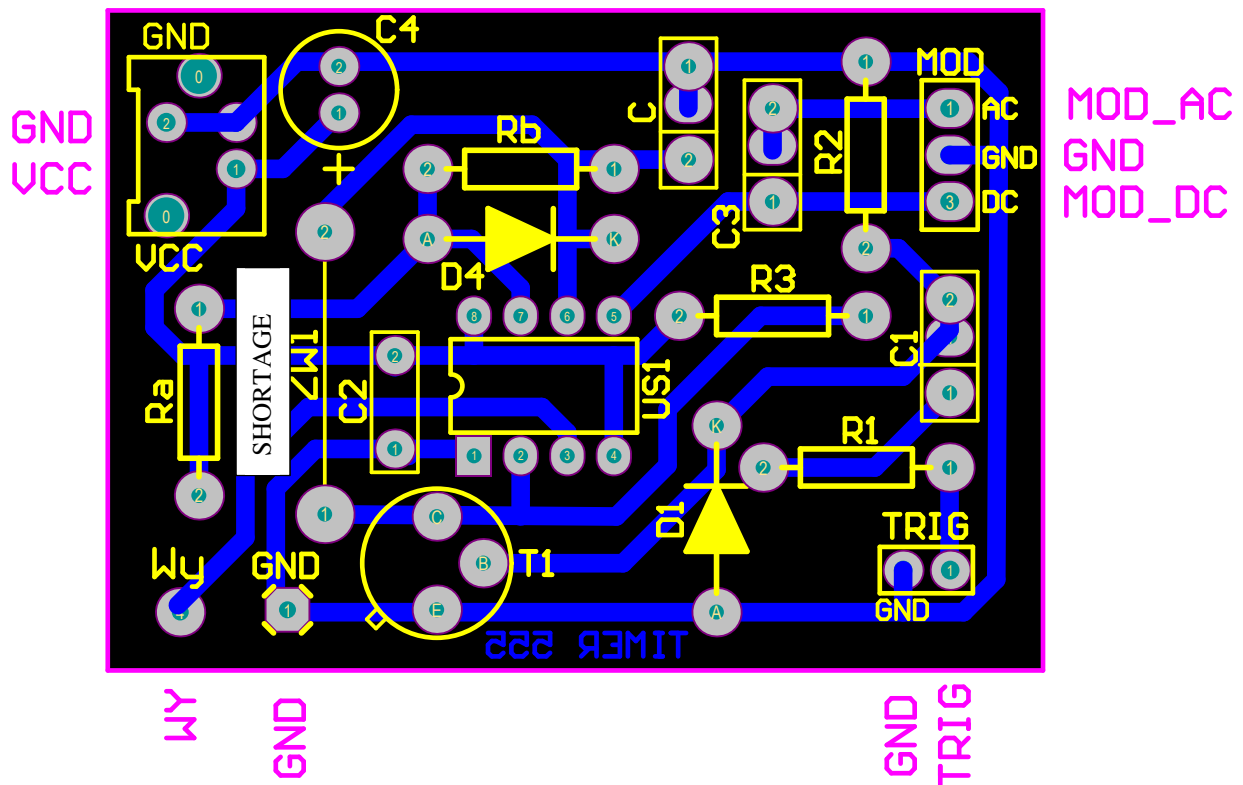

Fig.5.PCB of „555” circuit – top view.
The complete wiring diagram of the laboratory system is shown in Fig.4, and in Fig.5 there are assembly diagrams of the PCB.
Before assembling the system, the values of elements (resistors and capacitors) should be measured, and their values should be entered on the prepared diagram next to the calculated values. The system should be assembled in accordance with the assembly diagram shown in Fig.5
- the diagram from Fig.4 and the PCB from Fig.5 contain elements for both the astable and monostable flip-flop systems;